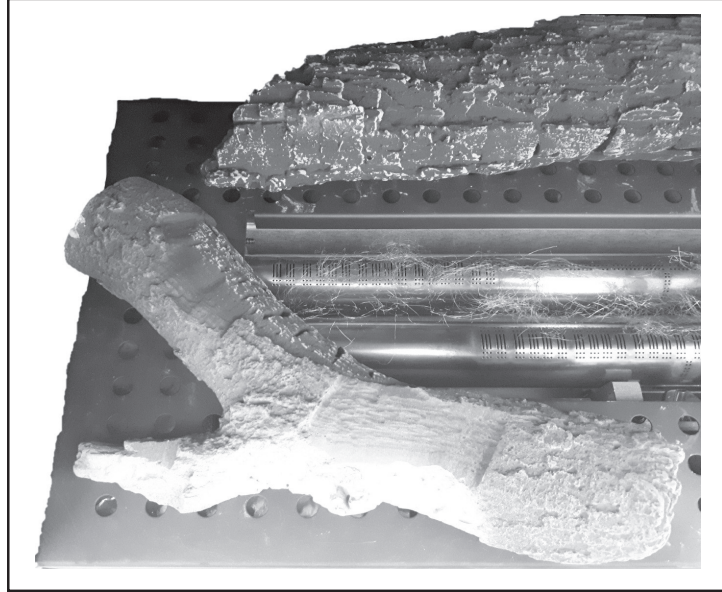

Fig. 3
3. Place Log '3' in position as shown in fig.3 on the far LHS. Log 3 has a flat side to rest on the metal tray. The log does position over the front burner front LHS blank end, but only where there are no burner port holes below the log.